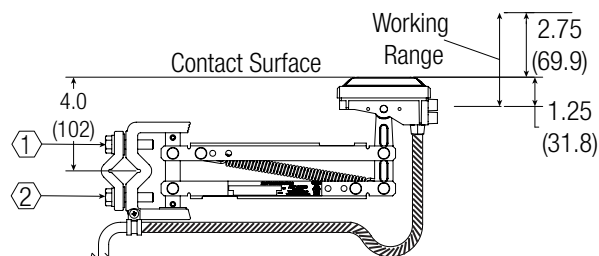

Figure: 17-1
### 17.0 XA-SL2-100S-1M Single Collector - Figure 17-1
1. Attach collector mounting bracket to a suitable support at the correct setting height (see Figs. 17-1 and 17-2).
5. For customer installed cable on the collectors, there must be 18" for 100 amp and 19.5" for 200 amp of cable length from the exit of the cable clamp to the entrance of the collector head. Reference the striped cable sections of **Figures 17-1, 17-2, 18-1, 18-2.**